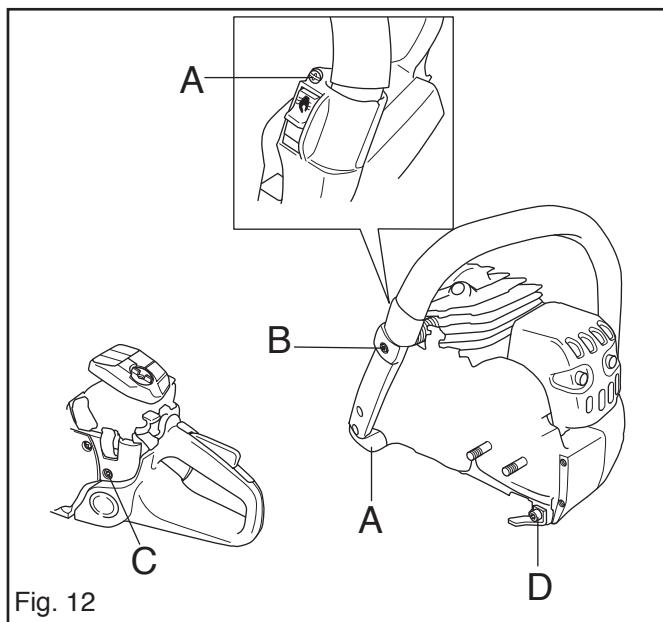

Fig. 12
2. Remove the bolt for the rear damper element (D) and upper AV spring (B). Remove the bolt on the front AV element (D). See fig. 12.
3. Dismantle the screw on the heater switch (A). See fig. 12.